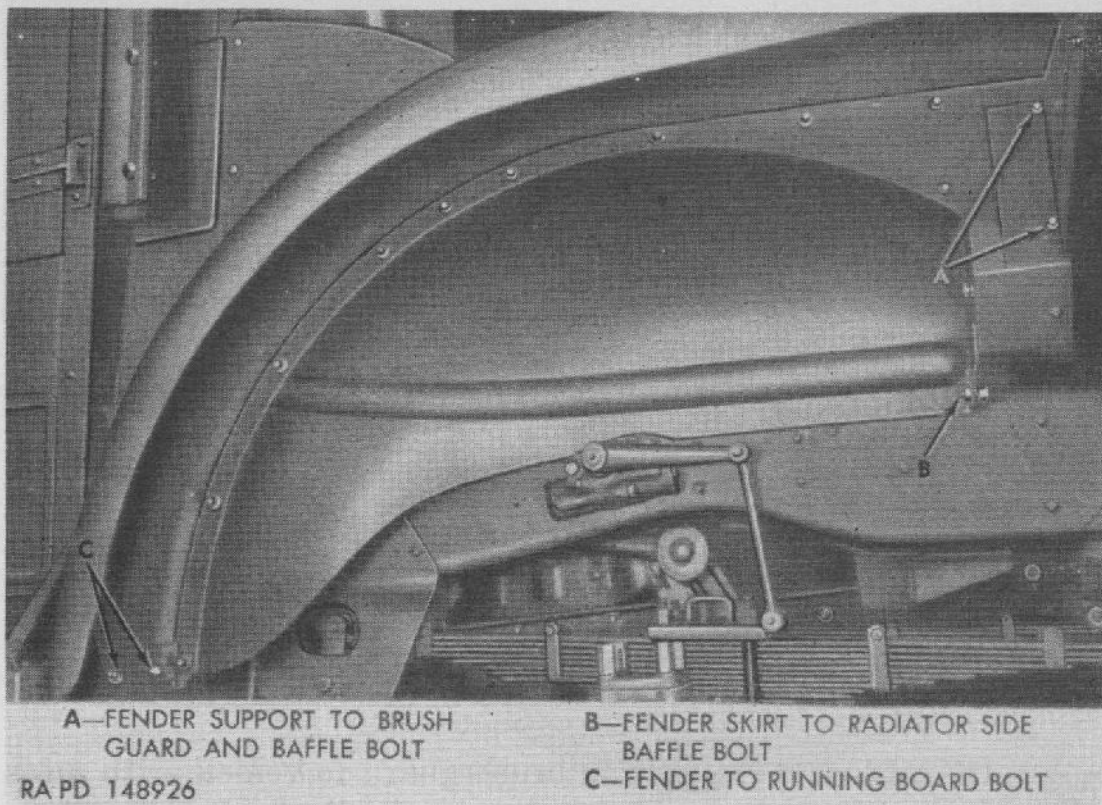

Figure 180. Fender installed (right side shown).
From under hood, loosen bolt which attaches fender to cowl extension panel. Remove five bolts and nuts indicated in figure 180; then lift fender and attached skirt from chassis.
c. FENDER INSTALLATION. Position fender to vehicle, with slot in fender brace engaged with bolt in bracket of cowl extension panel. Start five bolts and nuts indicated in figure 180; then tighten all nuts and bolts firmly, including bolt in cowl extension bracket.